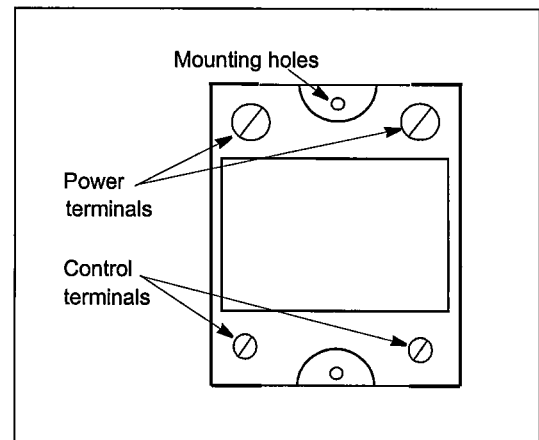

Figure 5. Solid State Relay
3. Locate the solid-state relay on the component tray (the relay is shown in Figure 5).